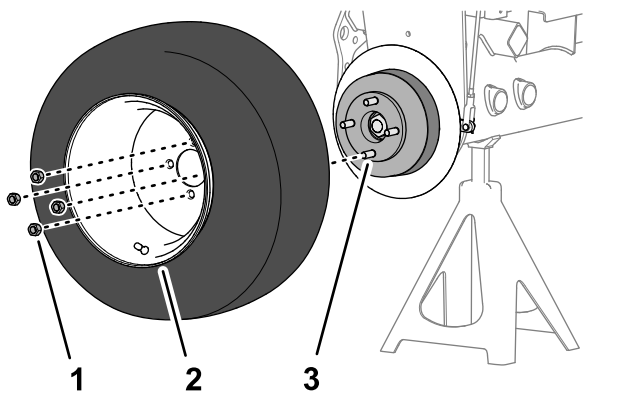

Figure 74
- Remove the 4 lug nuts that secure the front wheel to the hub, and remove the wheel (Figure 74).